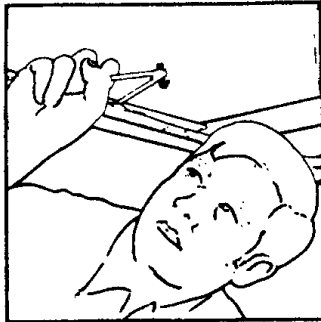

FIG. 9
23. Pull the canvas (at the bottom) over the bed edge and attach (at six points) the exposed stretch cords over the nearest hooks on the underside of the bed. (See Figure 9.)
30. Pull the canvas (at the bottom) over the bed edge and attach (at six points) the exposed stretch cords over the nearest hooks on the underside of the bed. (Refer to Figure 9.)
(See Note & Fig. 9)